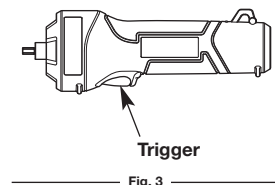

Fig. 3
2. With the electric starter flush with the engine, squeeze the trigger in intervals of no more than 4 seconds each until the unit starts. (Fig. 3)